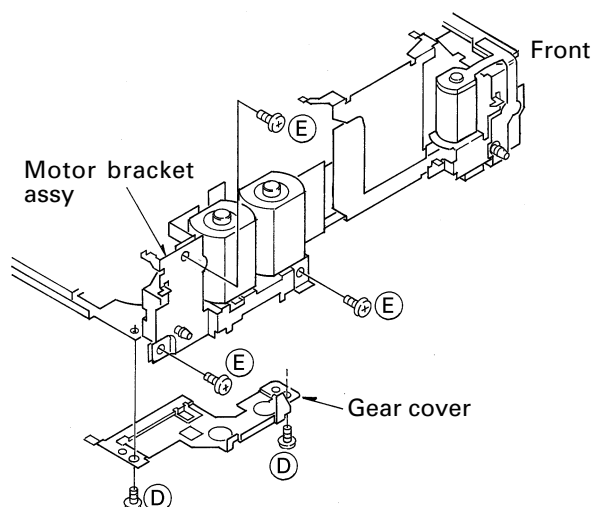

Fig. 10
- Remove the Gear cover. (Fig. 10)
2. Unhook the Spring (C). Remove the Door-open lever.
3. Loosen the screws (D), (E), and (F). Remove the PCB (C) and (D), and the frame.
4. Unhook the springs (A) and (B).
6. Unhook the spring (G). Remove the belt (large).
7. Loosen the screw (H). Remove the Load arm assy